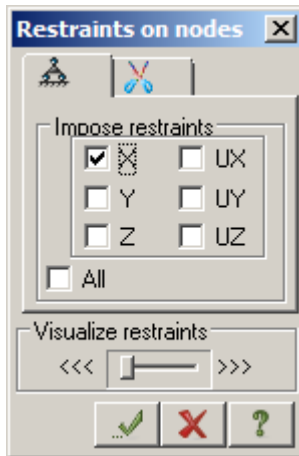

Figure 4.21 Restraints on nodes dialog box
- ⇒ In the **Restraints on nodes** dialog box (see Fig.4.21), specify directions along which displacements of nodes are not allowed (X). To do this, select appropriate check boxes.